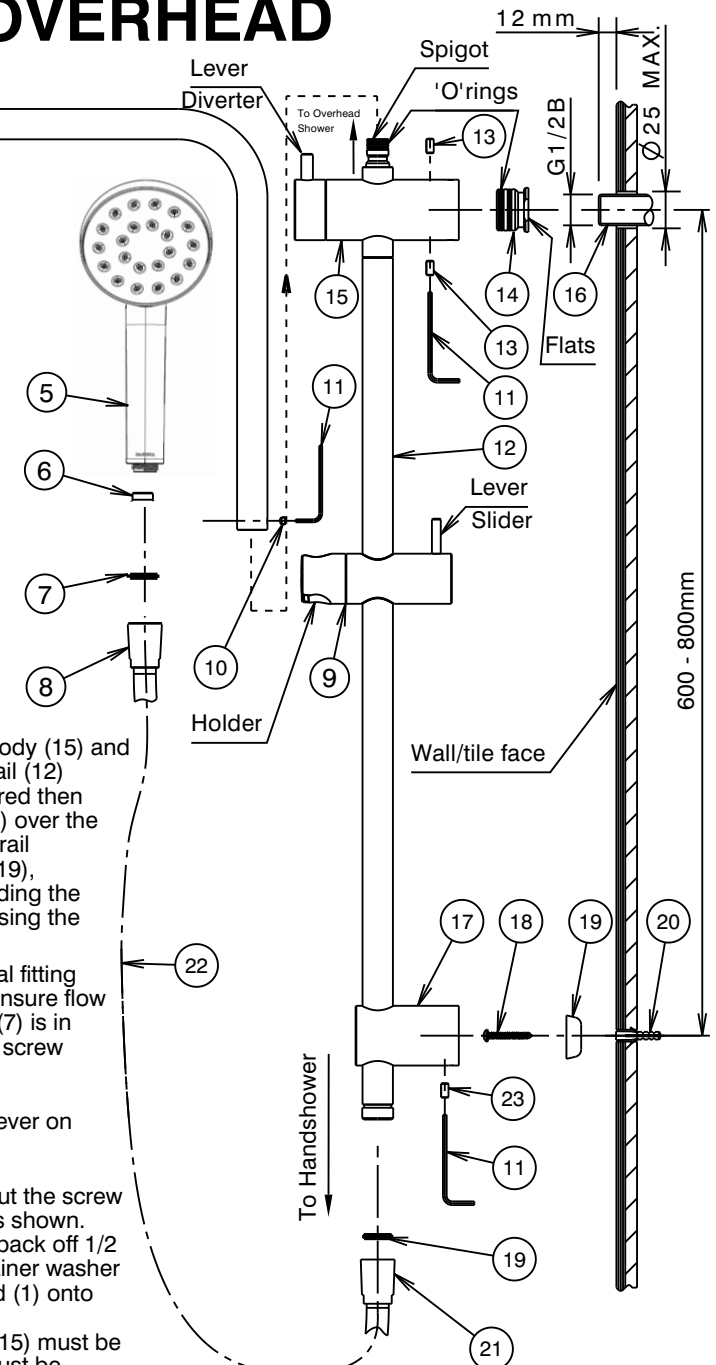

Fig. 1
- 2) Screw adaptor (14) onto threaded nipple (16) until adaptor (14) is held securely against wall/tile face. DO NOT OVERTIGHTEN. Apply suitable lubricant to 'O'Rings on adaptor (14).
- 3) Mark the position for the shower rail mounting post (17) at a suitable distance from the threaded nipple (16). (Fig 1.)
- ii) Insert tapered end of wall plug (20) into drilled hole and tap until flush with surface.
- 5) Pass the screw (18) through the hole in mounting flange (19) and insert into wall plug (20), then tighten until the flange (19) is mounted securely against the wall/tile face.